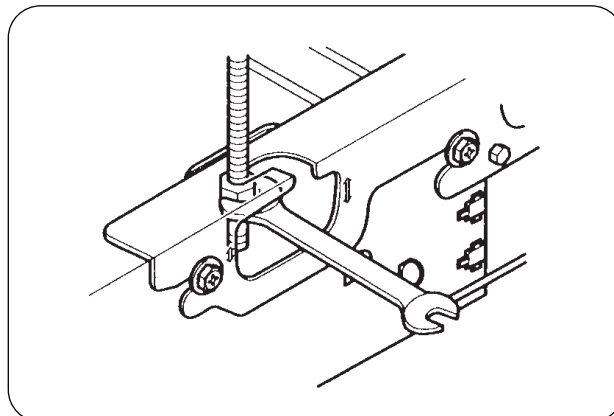

Fig.8
- (8) Adjust the unit height so that rear side of the drain pipe slightly inclines to improve drainage. Adjust the height by turning the nut with a spanner. Insert the spanner from the hanger bracket opening (Refer to Fig.8).